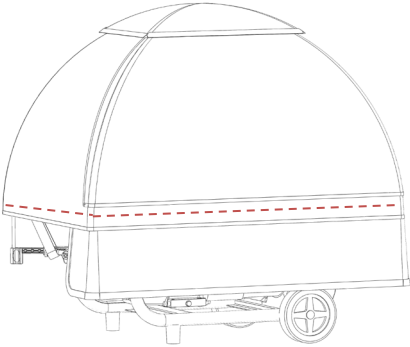

Fig. 4.3
- a. Along the bottom edge of the GenTent canopy is an over-flap. Flip up the over-flap from corner to corner above the electrical outlets. This will reveal a trim of hook and loop. (Fig. 4.3)